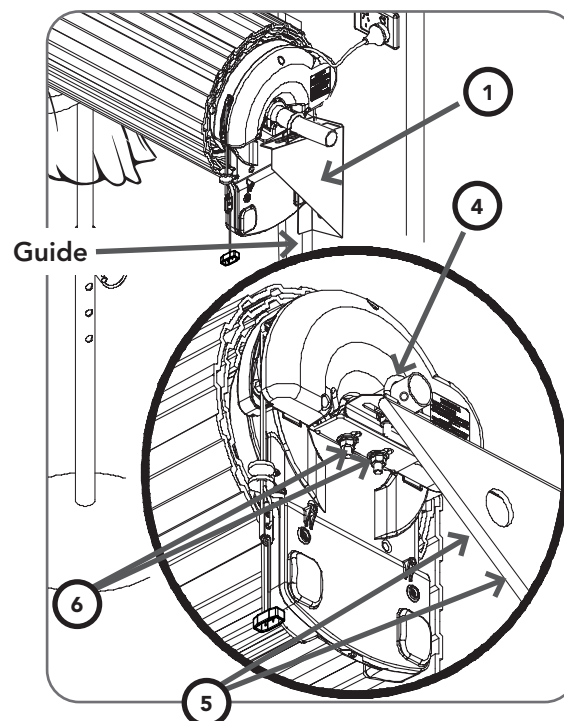

Fig. 4.1
- Place the hanger bracket (1) next to the door guide and mount to the guide using 4 x hex head screws (5) (**Fig 4.1**).
- Lift up and over the door hanger bracket (1) position the door onto the bracket.
- Fit the U-bolt (4) supplied with the extension kit and tighten with nuts (6).